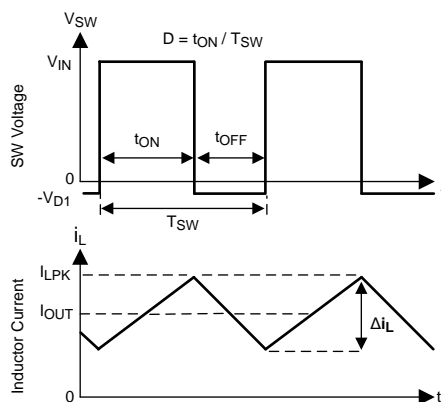

Figure 25. SW Node and Inductor Current Waveforms in Continuous Conduction Mode (CCM)
The following operating description of the LM43602-Q1 refers to the *Functional Block Diagram* and to the waveforms in Figure 25. The LM43602-Q1 is a step-down buck regulator with both high-side (HS) switch and low-side (LS) switch (synchronous rectifier) integrated. The LM43602-Q1 supplies a regulated output voltage by turning on the HS and LS NMOS switches with controlled ON time. During the HS switch ON time, the SW pin voltage V_{SW} swings up to approximately V_{IN} , and the inductor current i_L increases with a linear slope $(V_{IN} - V_{OUT}) / L$. When the HS switch is turned off by the control logic, the LS switch is turned on after a anti-shoot-through dead time. Inductor current discharges through the LS switch with a slope of $-V_{OUT} / L$. The control parameter of buck converters are defined as duty cycle $D = t_{ON} / T_{SW}$, where t_{ON} is the HS switch ON time and T_{SW} is the switching period. The regulator control loop maintains a constant output voltage by adjusting the duty cycle D . In an ideal buck converter, where losses are ignored, D is proportional to the output voltage and inversely proportional to the input voltage: $D = V_{OUT} / V_{IN}$.